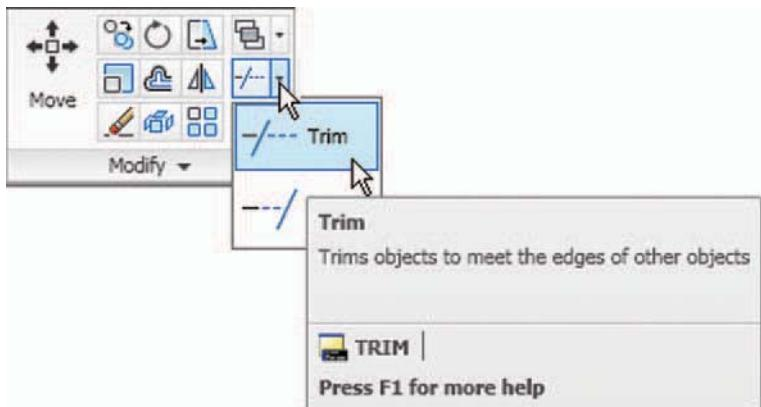

Fig. 5.30 The Trim tool icon from the Modify toolbar in the Home/Modify panel
2. Call **Trim** – either *left-click* on its tool icon in the **Home/Modify** panel (Fig. 5.30), *pick* its tool icon in the **Modify** toolbar, *pick Trim* from the **Modify** drop-down menu, or *enter tr* or **trim** at the command line, which then shows: